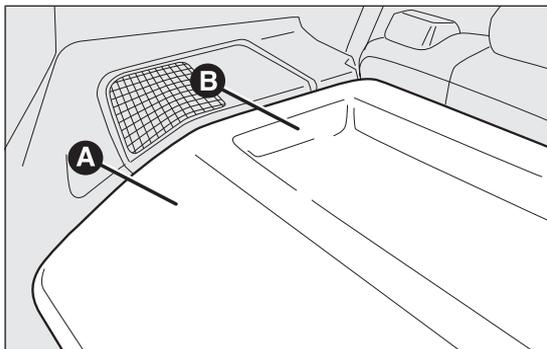
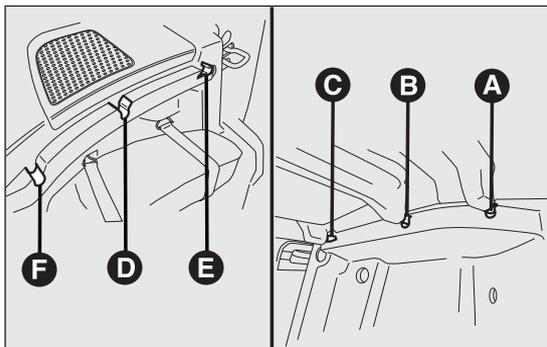

fig. 69
fig. 70
The parcel shelf fig. 69 consists of two parts.
- open the tailgate and lift the front part A fig. 69 by releasing the pin A fig. 70 from the seat F fig. 70;
- lift the rear part B fig. 69 by releasing the pins B and C fig. 70 from the seat D and E fig. 70.